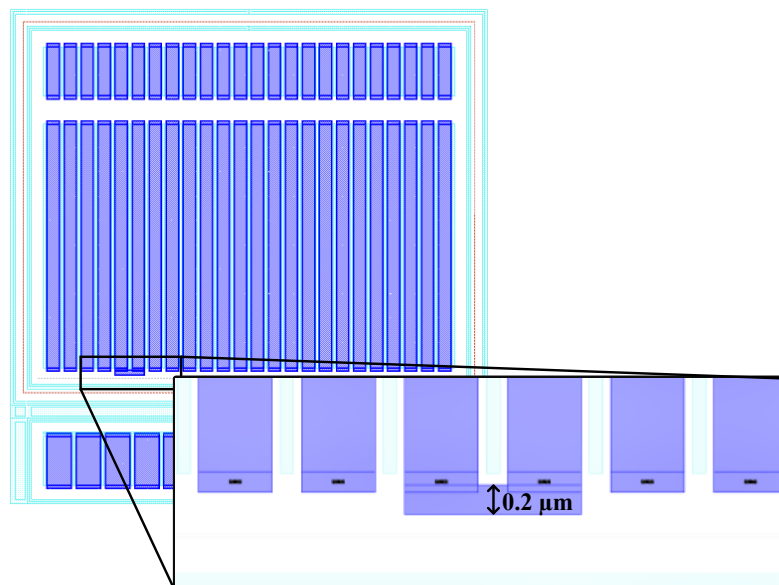

Fig. 8. Gate connection
After the guard rings are connected, we will connect the gate terminals of the different fingers for each transistor. The process is really similar to what we have seen for the p-substrate guard rings, as again we need to create some rectangles in the PO layers to connect the gates and place the gate contacts from the polysilicon (PO) to the lowest metal level (M1). First, draw a rectangle to connect two adjacent fingers, as shown in Fig. 8. Then, we can replicate this rectangle to connect all the fingers representing the transistor M2. Use the ruler (**K**) to measure the distance between one pair of two fingers and the